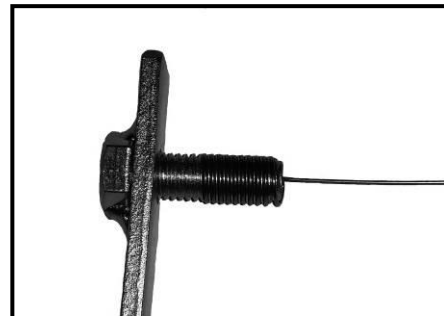

Fig 1C
4. Next, partially thread a Plastic Retainer onto the threaded end of a 12mm Bolt /10mm Nut Plate, **(Figure 1C)**. Insert the Bolt and Nut Plate with Plastic Retainer into the factory oval hole, **(Figure 1B)**. **FOR MID-YEAR 2015 & UP MODELS WITH PRE-INSTALLED 8mm THREADED INSERTS, SKIP THIS STEP AND PROCEED TO STEP 5.**
7. Move to the passenger side rear of the vehicle and remove the tape covering the factory oval hole in the inner body panel as described in **Step 2**. Thread a Plastic Retainer onto the threaded end of a Bolt and Nut Plate, **(Figures 1C & 4)**. Insert the Bolt and Nut Plate into the factory hole, (see **Steps 3 & 4**).